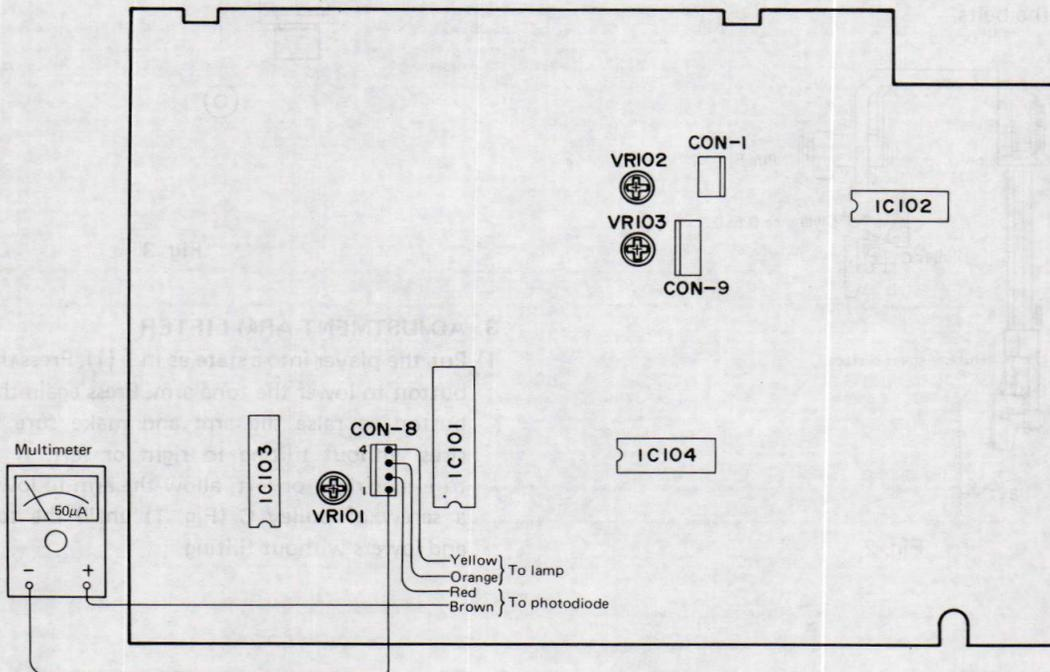

Fig. 6
- 2) The removed connector CON-8 is wired as shown in Fig. 6. Press pin 1 with a standard screwdriver and pull out the brown wire.